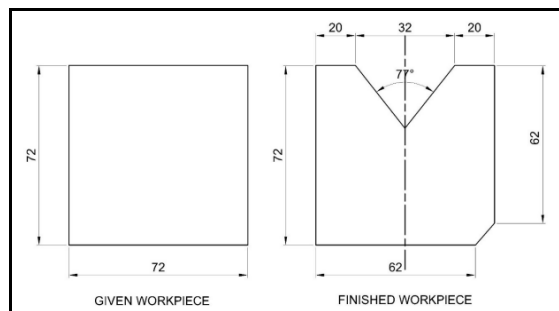

Figure 8.1. V-groove operation
- The feed is given such that the tool moves gradually on either side of the middle line for figure 8.1